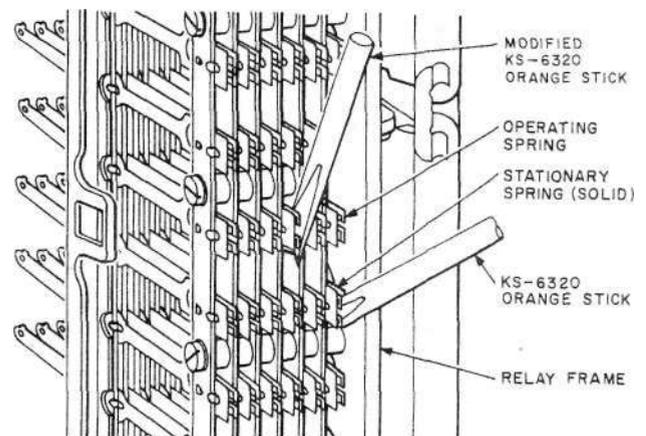

**Fig. 48—Blocking Contacts of 229- and Similar-Type Relays**
**5.08 Blocking Contacts of 229- and Similar-Type Relays:** Fig. 48—Block individual contacts with a toothpick, as shown in Fig. 48.